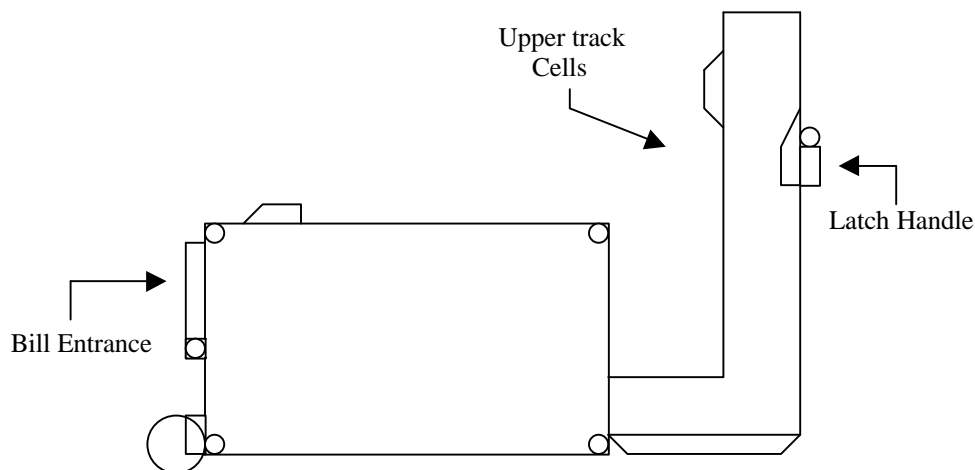

Figure 1.1
See figure: 1.1
2. Using the latch, open the upper track assembly to expose the bill path. See figure 1.1